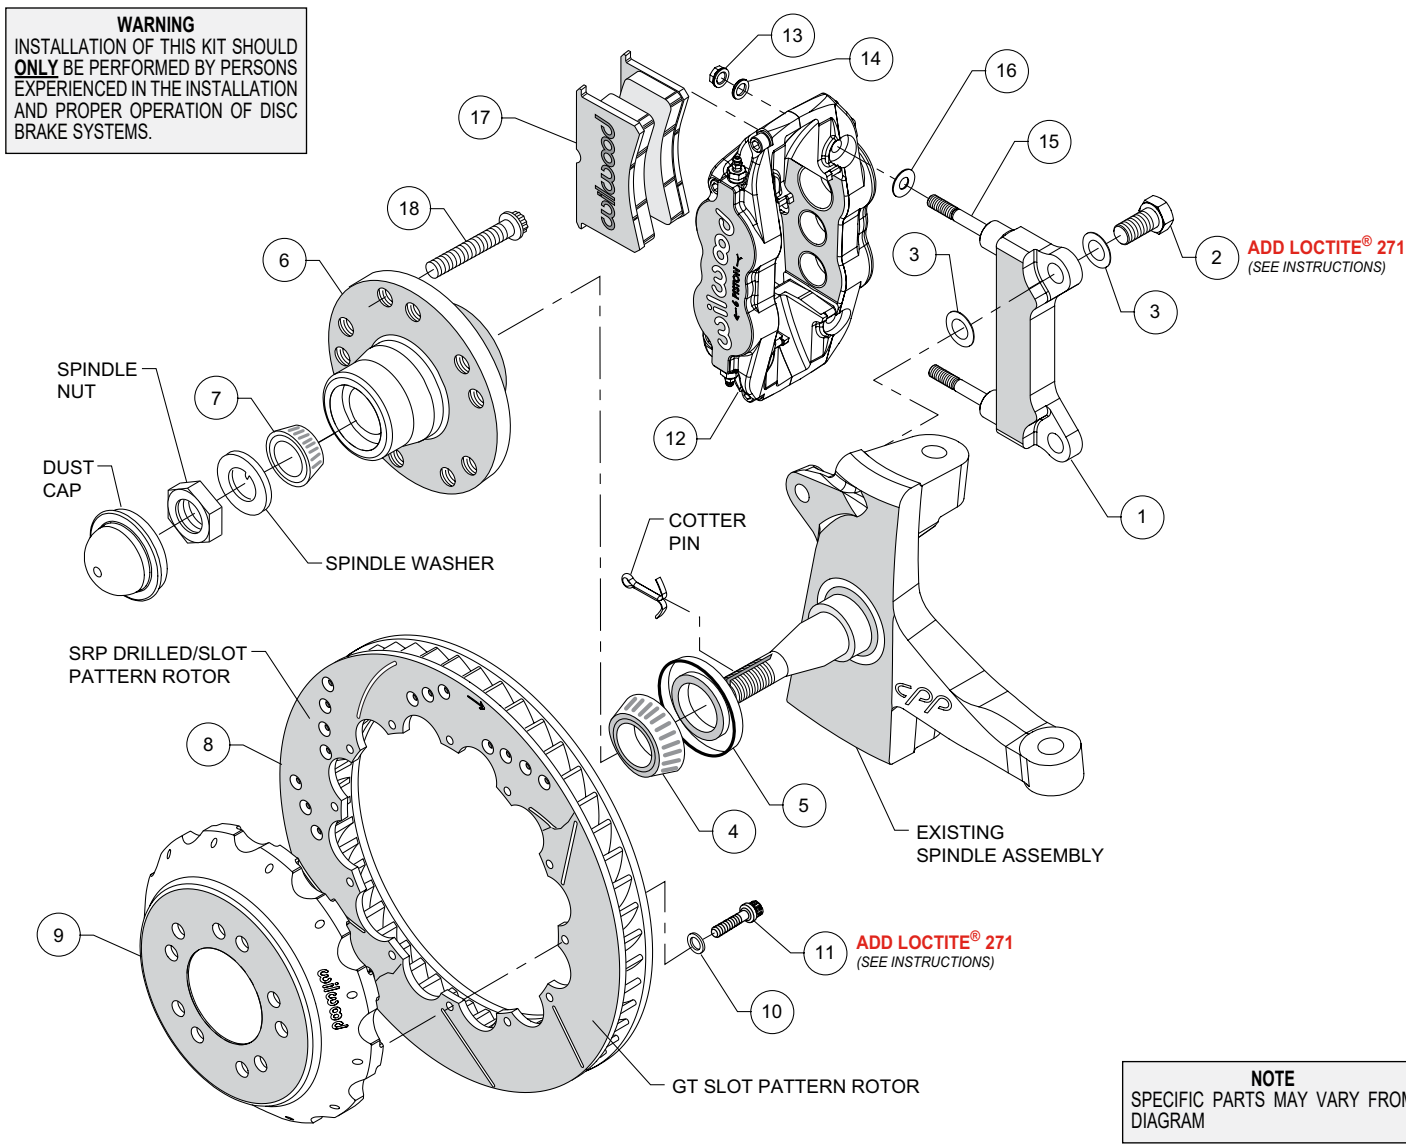
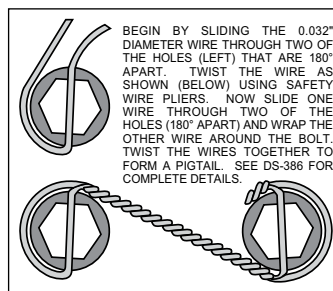

Figure 1. Typical Installation Configuration
Figure 3. Safety Wire Diagram
**NOTE:** Numbers in parenthesis refer to the parts list and Figure 1 on the preceding pages.
- The caliper mount bracket (1) should initially be installed with clean, dry threads on the mounting bolts. Orient the bracket, as shown in Figure 1, and install using bolt (2) and washer (3). Initially place one .024" thick shim (3) on each bolt between the bracket and upright, Figure 1. Temporarily tighten the mounting bolts. **NOTE:** The bracket must fit squarely against the mount bosses on the upright. Inspect for interference from casting irregularities, machining ridges, burrs, etc. Later, after the caliper alignment has been checked, the mount bolts will be secured using red *Loctite*® 271.
- Install wheel studs (18) into the hub (6), Photo 1. Torque to 77 ft-lb. **NOTE:** There are two five lug patterns in the hub (5 x 4.75 and 5 x 5.00). Ensure the correct hub stud pattern is being used to fit the wheel application.
- Pack the large inner bearing cone (4) with high temperature disc brake bearing grease (available from your local auto parts store) and install into the backside of the hub (6), Photo 2.
- Install the grease seal (5) by pressing into the backside of the hub (6), flush with the end of the hub, Photo 3.
- Orient the rotor (8) and the hat (9) as shown in Figure 1 and Photo 4. Attach rotor to hat using bolts (11) and washers (10). Apply red *Loctite*® 271 to the bolt threads and torque to 155 **in-lb** using a criss-cross pattern. For an added measure of security, the bolts may be safety wired using standard 0.032 inch diameter stainless steel safety wire as shown in Figure 3. Refer to Wilwood's data sheet DS-386 (available at [www.wilwood.com/Pdf/DataSheets/ds386.pdf](http://www.wilwood.com/Pdf/DataSheets/ds386.pdf)) for complete safety wire installation instructions.
- Pack the small outer bearing cone (7) with high temperature disc brake bearing grease and install into hub (6). Slide the hub assembly onto the spindle. Secure using spindle washer and spindle nut, Photo 5. Adjust bearings per OEM specifications. Install a new cotter pin.
- Press the dust cap into the hub (6).
- Slide the hat/rotor assembly (8/9) onto the hub (6). **NOTE:** The hat must fit flush against the hub face or excessive rotor run out may result.
•**NOTE:** This kit contains distinct right and left hand calipers that must be mounted in a specific direction, as described below. Initially place one .035" thick shim (16) on each stud (15) as shown in Figure 1 and Photo 6. Mount the caliper (12) onto the bracket (1) using lock nuts (13) and washers (14), Figure 1. Ensure that the caliper is mounted so that the largest pistons are at the rotor exit end of the caliper, in relation to the direction of rotor rotation. Temporarily tighten the lock nuts and view the rotor through the top opening of the caliper. The rotor should be centered in the caliper, Photo 7. If not, adjust by adding or subtracting shims (3) between the bracket and the upright. Always use the same amount of shims on each of the two mounting bolts. Once the caliper alignment is correct, remove the bracket mounting bolts one at a time, apply red *Loctite*® 271 to the threads, and torque to 120 ft-lb.